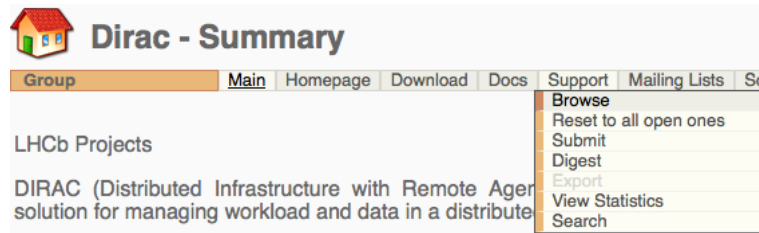

Figure 5: Browse current support issues.
- Browse the existing support issues and ensure the feature request has not been previously submitted (Fig. 5).